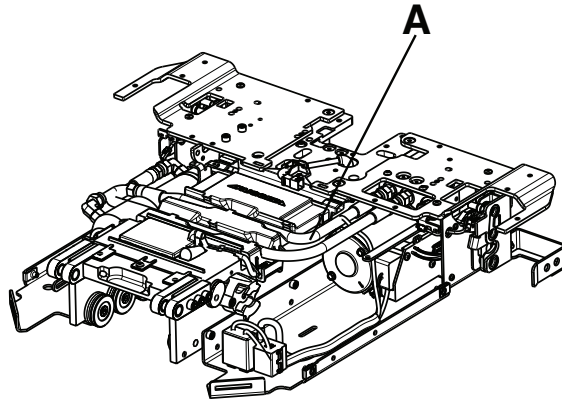
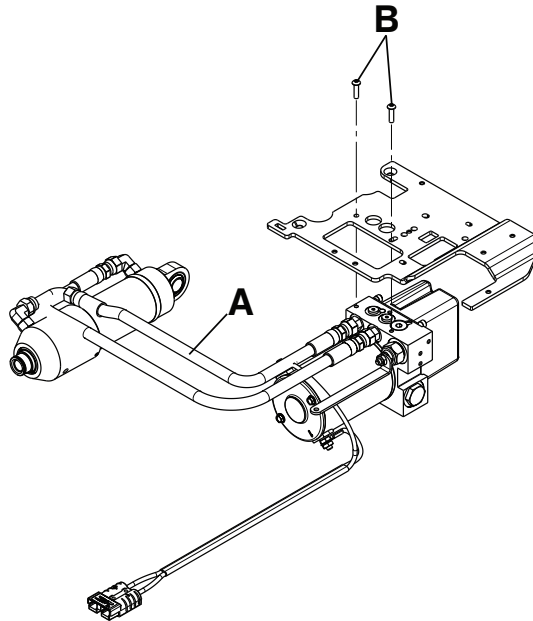

Figure 32 – Hydraulic hose location
Figure 33 – Manifold fitting screws location
- Using an 11/16" combination wrench, disconnect the hydraulic hose (A) closest to the mounting bracket at the head end of the trolley (Figure 32 and Figure 33).
4. Using a T25 Torx driver, loosen (do not remove) the two screws (B) that secure the manifold fitting to the left wing plate (Figure 33).